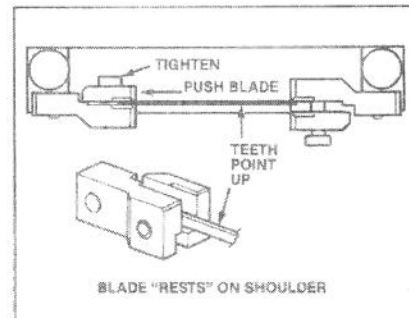

Figure 9A. Install one end of the blade.
2. Install one end of blade. (See Figure 9A.) With the mounting block assembly screws (34) loosened, seat the blade (teeth up) between the holder (32) and clamp (33) of one mounting block assembly. The blade end must touch the screw (34) and the blade must rest on the shoulder of the mounting block assembly. Securely tighten the screw (34).